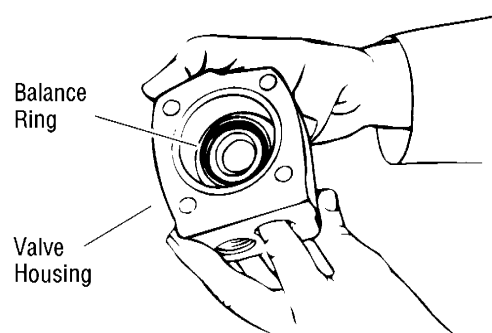
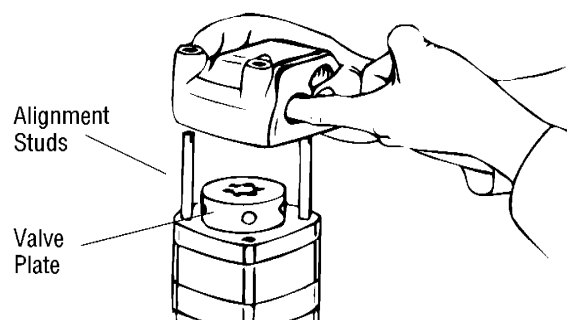

Figure 16
Figure 17
**39** Insert your finger through port of valve housing. Apply pressure to side of balance ring as shown in Figure 16. Hold ring in position until valve housing is in place against valve plate (see Figure 17).